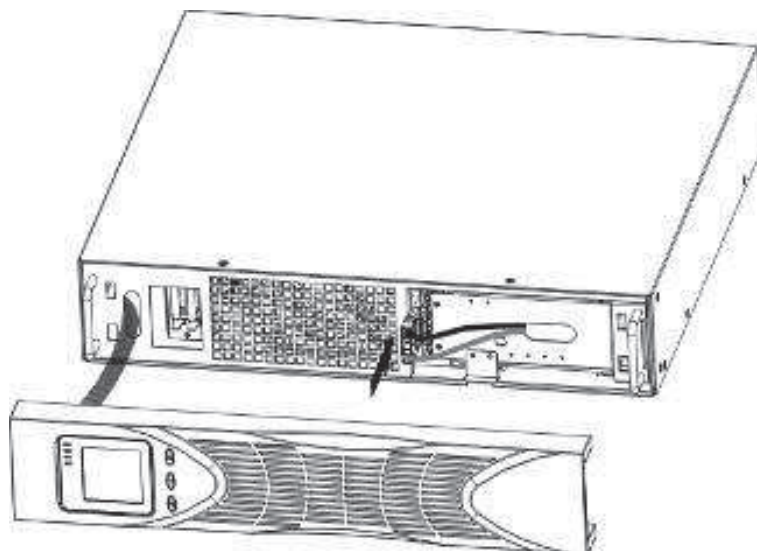

Figure 6 Connecting the UPS Internal Batteries
- b) Connect the internal battery connector(see Figure6)